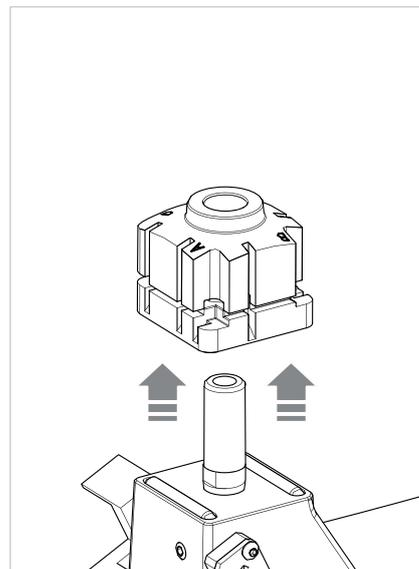

Fig. 40
- 3) Pull the clamp upwards (Fig. 40).